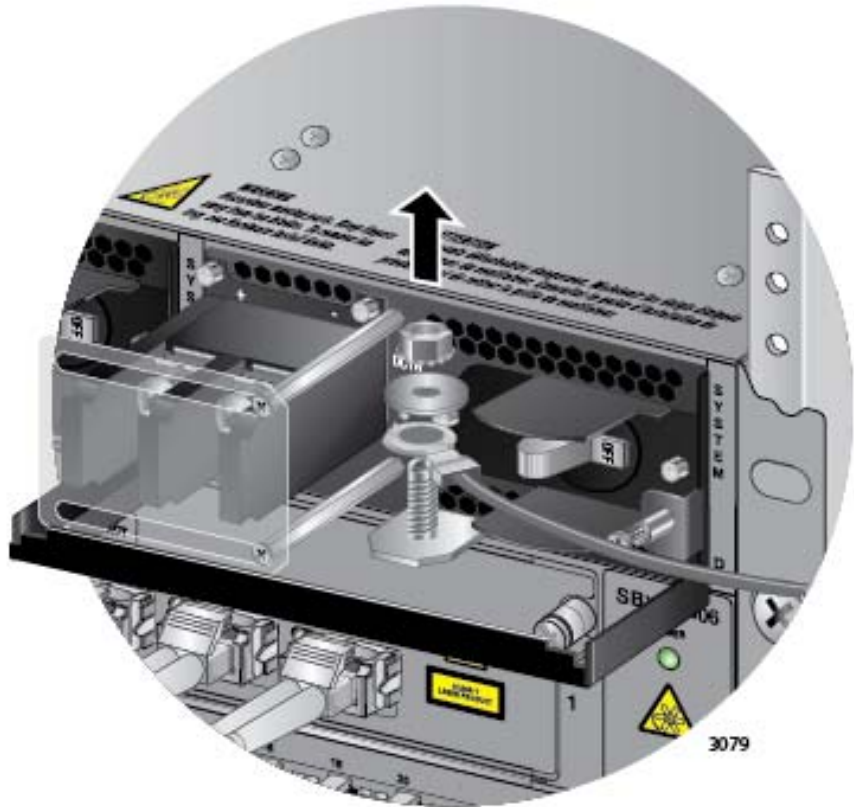

Figure 177. Removing the Grounding Wire
9. Use an 8 mm wrench to remove the grounding wire from the grounding post. Refer to Figure 177 on page 293.